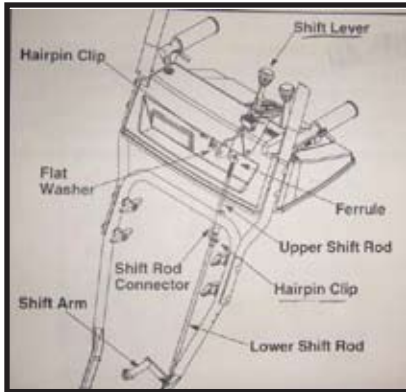

FIG. 13
- Remove the hairpin clip and slide the shift rod connector up, to separate the upper shift rod from the lower shift rod. See Figure 13
- Place the shift lever into the sixth (6) position.